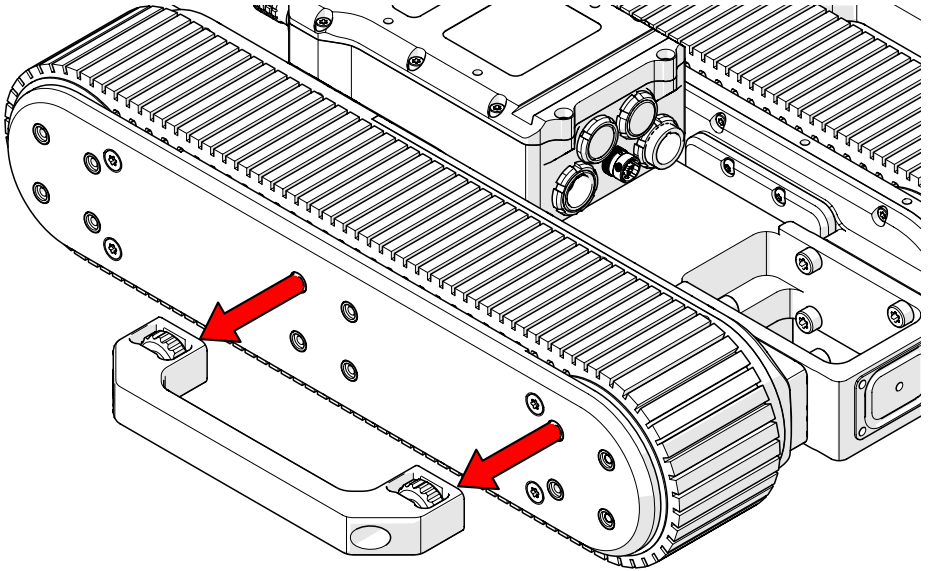

Fig. 42 - Remove handles on both sides
1. Remove both handles (Fig. 42) from the scanner (see “Handles” on page 40 for additional details).